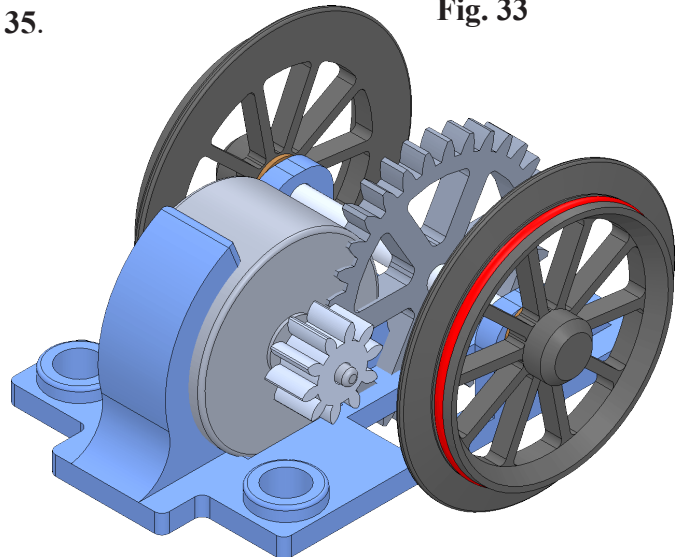

Fig. 34
Step 3. Click **Distance**  in Mate pop-up, Fig. 33. Set **distance 6.9** and press ENTER. The Gear should be positioned out from Motor, Fig. 34. If positioned in opposite direction, click **Flip Dimension**  in the Mate pop-up. Click Add/Finish Mate  to add Distance mate.